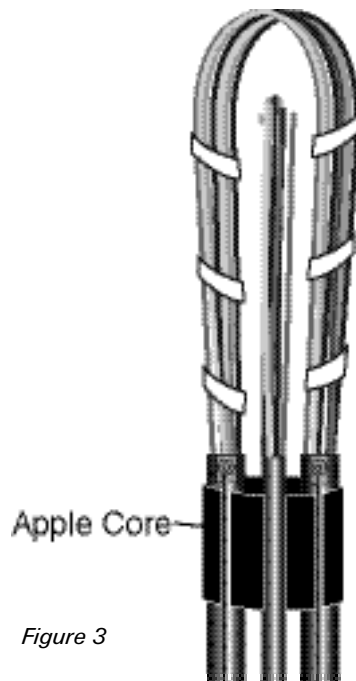

Figure 3
6. Place the sealant "apple core" just below the previously installed bond clamps with the two larger cables in the core's cable openings (Fig. 3).
7. If present, press the third cable into the front and center of the apple core (Fig. 3).
8. Press the ground wires into the apple core directly in front of each main cable. (Fig. 3)